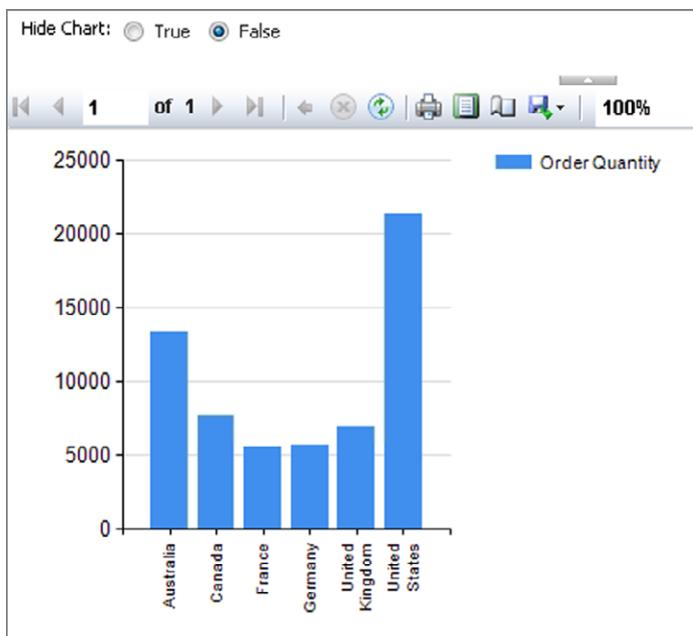

Figure 5-12
9. Preview the report and you will see that the parameter provides users the option to turn on or off the visibility of an object, as shown in Figure 5-12.